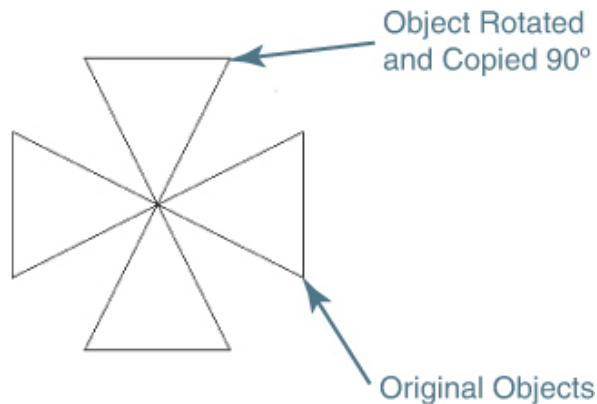

Figure 7-37
You can use any of the methods explained earlier to specify a rotation angle. Figure 7-37 shows the results of using the **Copy** option and rotating the objects shown in Figure 7-34A 90° from horizontal.
- 13** Type **90<Enter>**. The triangles are copied and rotated 90° as shown in Figure 7-37.